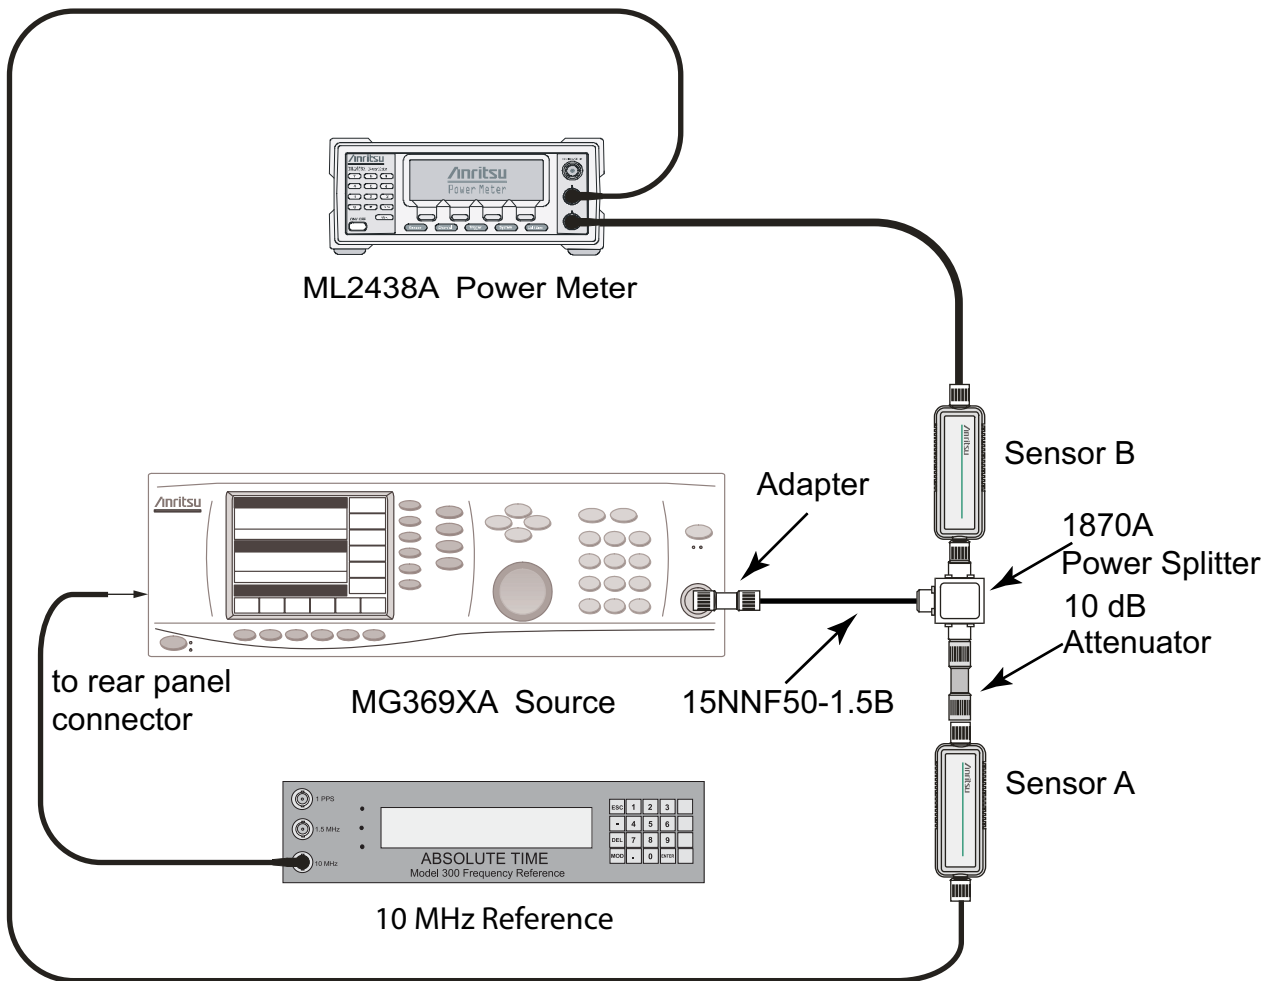

Figure 2-9. 50 MHz Amplitude Accuracy Verification Component Characterization Setup
3. Connect the model 1870A power splitter to the MG3692x output and connect Sensor B to one of the power splitter outputs (Refer to Figure 2-9).
2. Connect the equipment as shown in Figure 2-9.